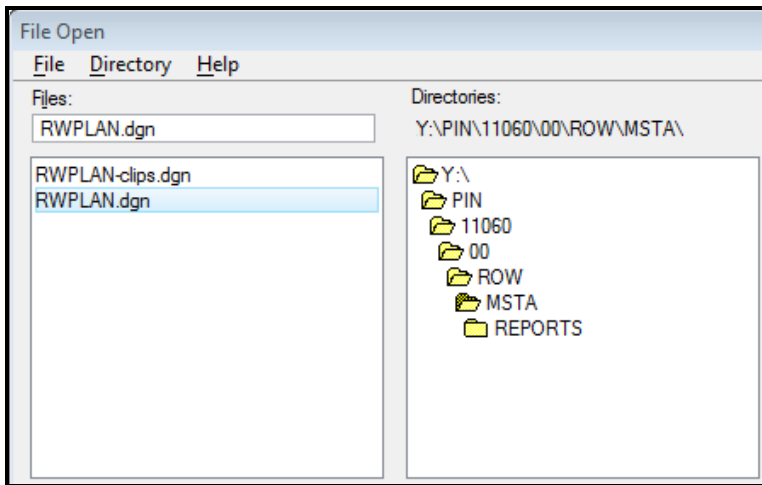

Figure 3-3: Project directory set by project pick.
- 🎵 This will direct the *File Open* dialog to the new InRoads project directory on the network (i.e., Y:\pin\11060\00\ROW\MSTA\) (Figure 3-3).